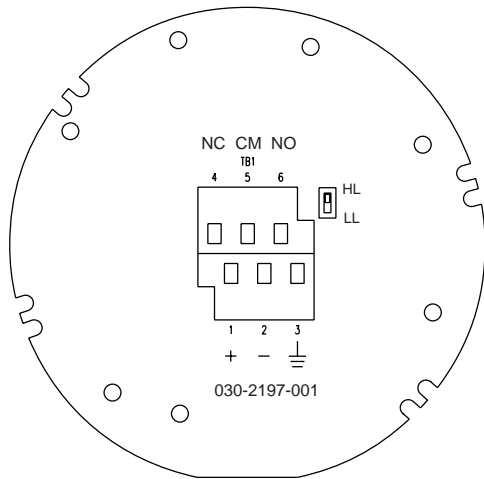

Figure 6
5. Connect power wiring to the terminals marked + , - , and \perp as shown in Figure 6.
6. Connect relay wiring to the terminals marked NC, CM, and NO as shown in Figure 6.